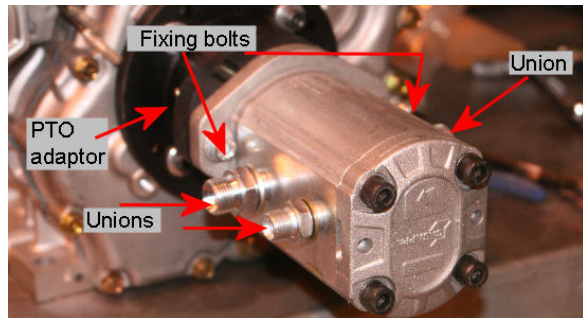

Fig 5-32 Pump unions
2. Remove the three unions from the pump (Fig 5-32).
3. Remove the two bolts securing the pump to the power takeoff (PTO) adaptor (Fig 5-32) and extract the pump.